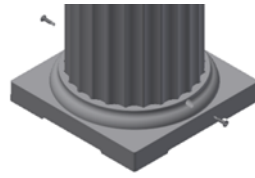

Fig. 3
**Step 5** Install split (2) piece Capital and Base set by placing one half of the base against column and snapping the hooks of mating half of base into each other. A rubber mallet may be used to snap split (2) piece Base together, being careful not to hit column. Install screws on each side of the base. Repeat same procedure for split (2) piece Capital at top of column. (Fig.3)